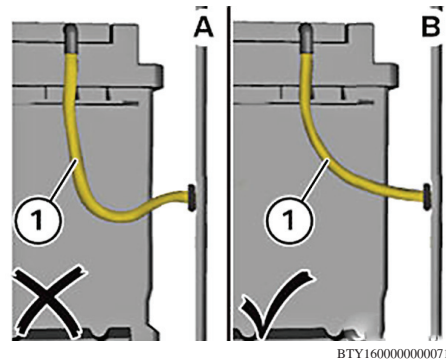

Fig. 5 Battery vent installation routing
3. Always route battery vent line (1) at a downhill gradient outward to prevent any siphoning action, **Fig. 5**.